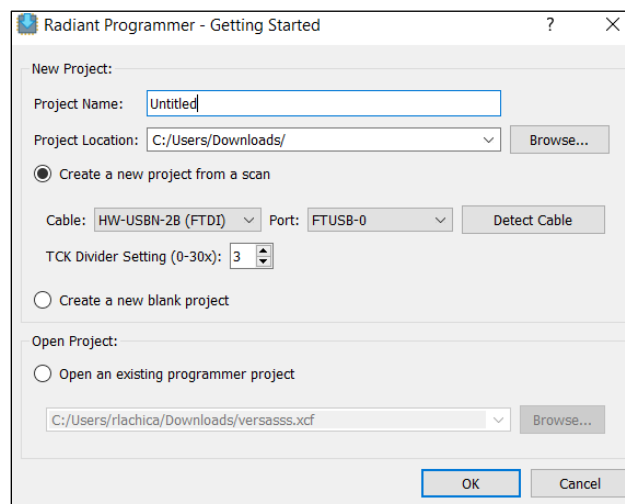

Figure 3.4. Stand-alone Radiant Programmer Opened from Windows Start Menu
- If the Radiant project is already open, click the Radiant Programmer icon  in the toolbar. If not, open the stand-alone Radiant Programmer via the **Windows Start** menu. The **Getting Started** dialog appears (Figure 3.4). The default project name is **Untitled**. Enter a preferred name and select a location in the **Project Location** field. Click **OK**.